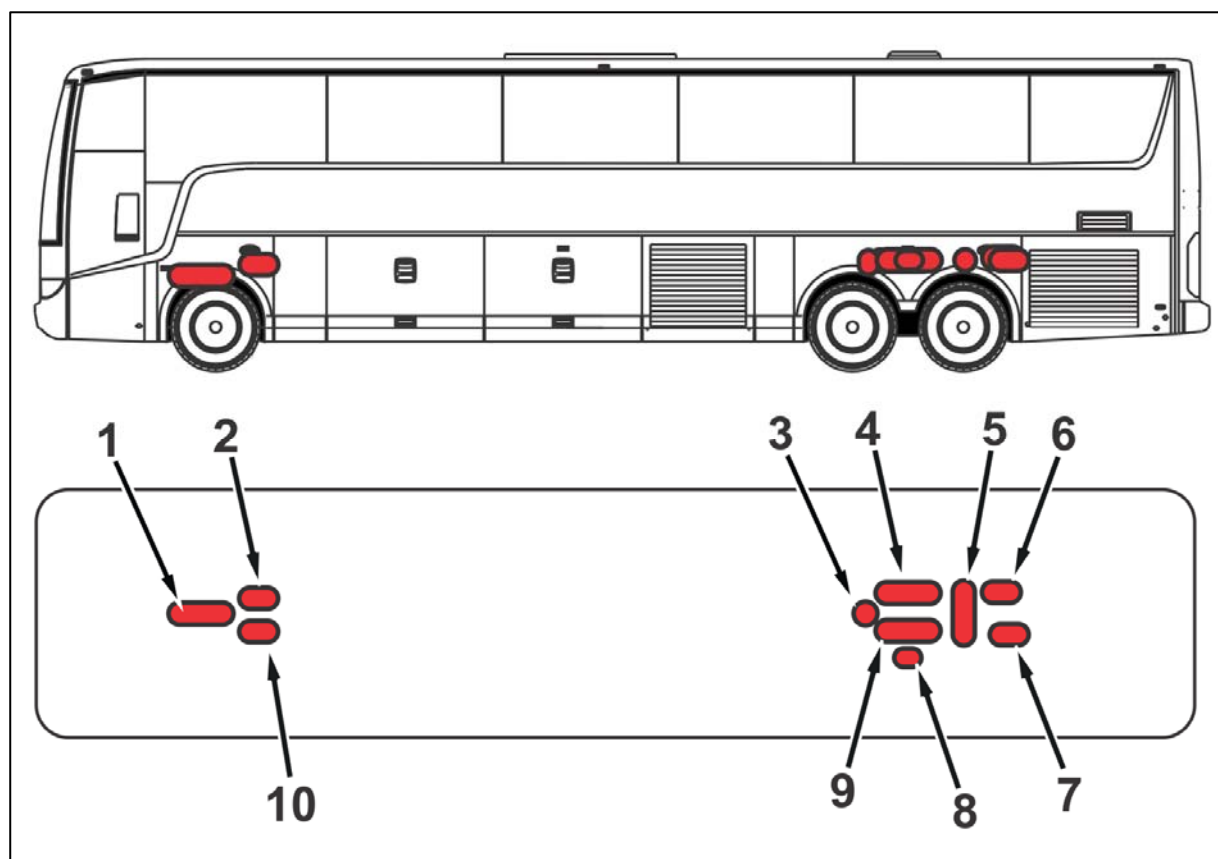

Figure 9: Location of compressed-air tank on TX..
3.2	WARNING! Use appropriate hearing protection while draining the air tanks. Completely drain the entire air system by using the drain cocks on the air tanks. Refer to figure 9 at the end of this service bulletin for air tanks location. Figure 5: Compressed-air tank drain cock, previous model 1. Closed 2. Open Figure 5b: Compressed-air tank drain cock, current model Left: closed Right: open